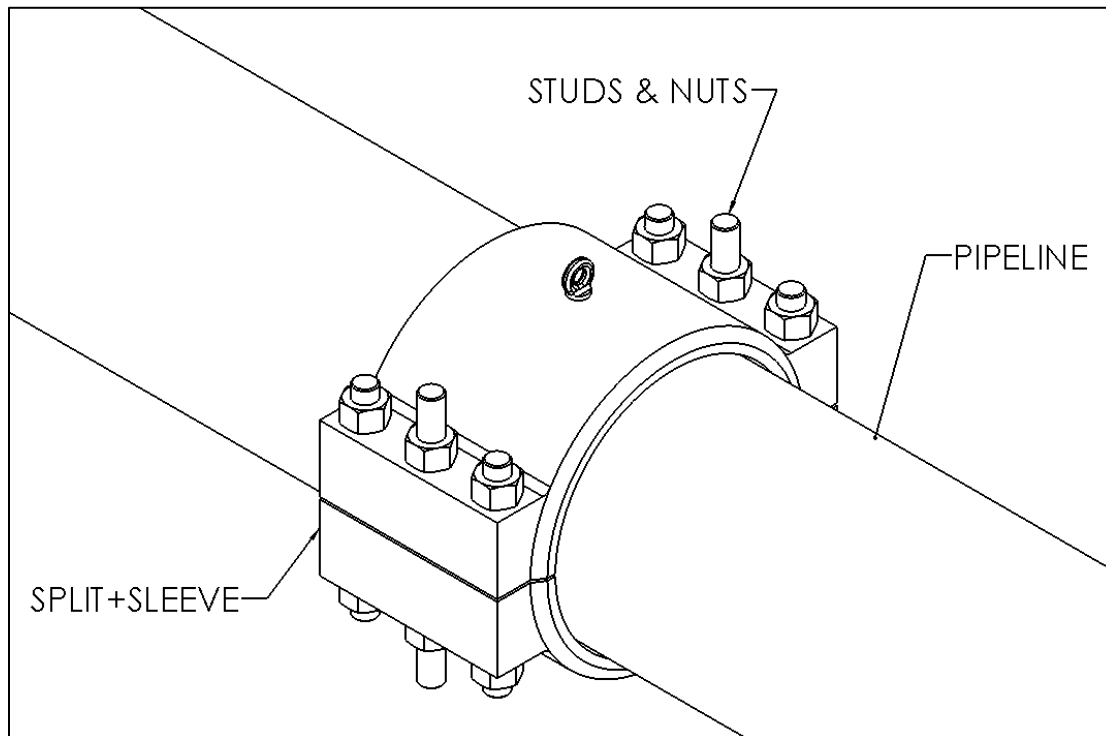
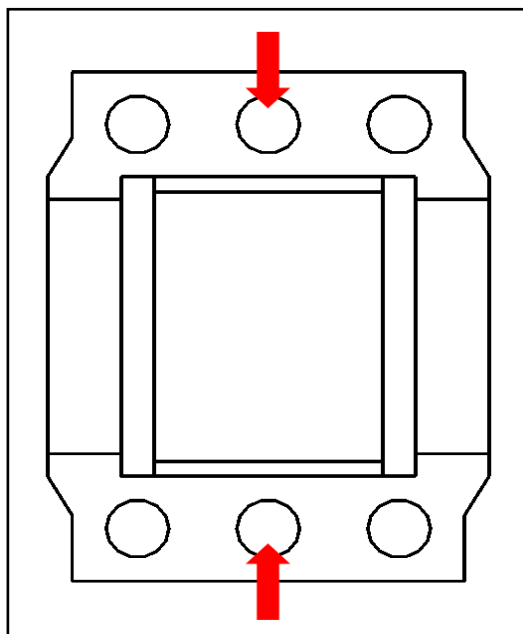

Figure 6
Figure 7
5. Install the studs and nuts through the holes in the Split+Sleeve as shown in Figure 6. Most Split+Sleeves will have two different stud lengths. Make sure the longer studs are in the proper bolt holes. PLIDCO Split+Sleeves with 3 holes per side should have the longer bolts in the two center holes. Sleeves with more than 3 holes per side should have the longer bolts in the four corner holes (see Figures 7 and 8)